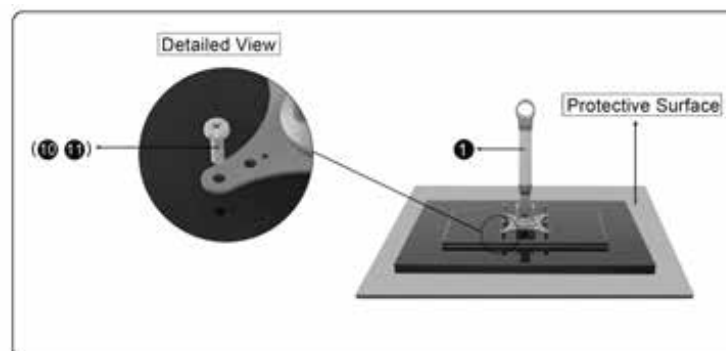

Figure 5
3. Locate the 4 VESA Screw Holes on the back of your monitor. Place the LCD Arm over the VESA Holes aligning the Bracket Holes with the Monitor Holes. Using the monitor screws provided attach the Arm to the Monitor. Use caution not to over tighten, stop immediately if you encounter resistance. (See Figure 5)